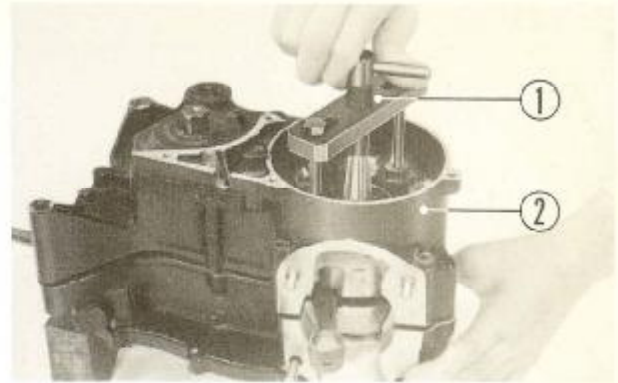

Fig. 3-35 ① Crankcase disassembly tool
10. Bolt the crankcase disassembly tool (tool no. 07937-3600000) to the left crankcase as shown in Fig. 3-35. Turn the screw of the tool against the end of the crankshaft to separate the cases.